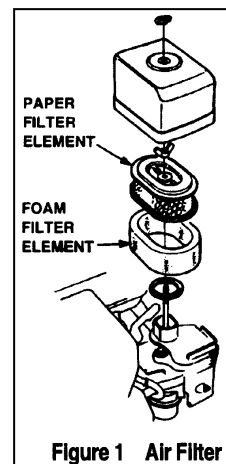

Figure 1 Air Filter
2. To clean or replace the air filter, loosen the wingnut on the air filter housing (Fig. 1), remove the cover and take out the air filter cartridge. If you are only cleaning the air filter, blow compressed air through the filter cartridge from the inside, moving to cover the entire filter area.